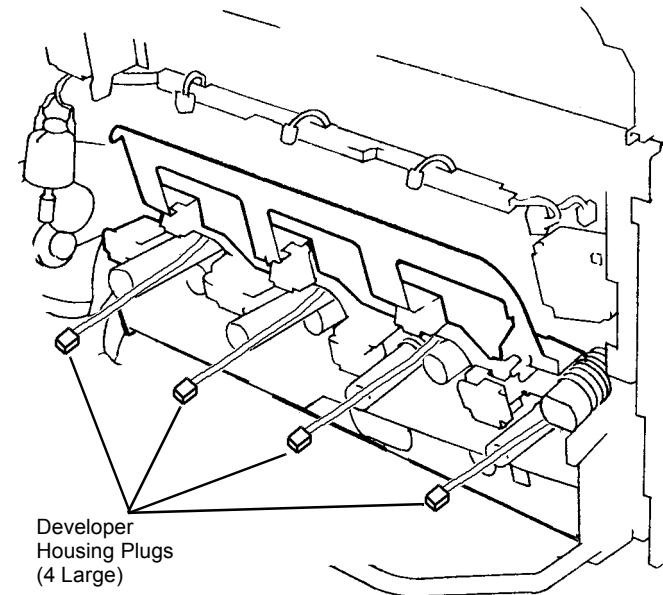

Figure 1 Disconnecting Developer Housing Plugs
10. Disconnect Developer Housing Plugs, 4 large and 4 small (small not shown). Position wires straight out from machine. Wires remain stationary while removing Plate Assembly (Figure 1).